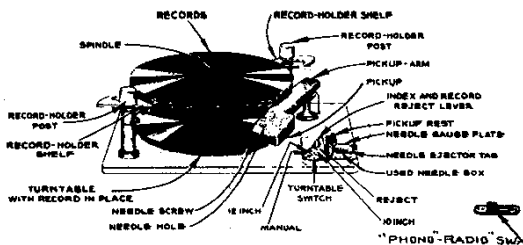

Figure 6
The two record holder posts (See Figure 6) are covered with paper held in place by rubber bands as is also the pickup. Remove these paper coverings.
**TURNTABLE SWITCH:** The Turntable Switch is a toggle type located in the front of the index plate on the motorboard (See Figure 6). It is used to start and stop the motor.
**INDEX LEVER:** The Index Lever moves in a small arc in the slot in the index plate. (See Figure 6). The plate is labeled for four positions of the lever - "Manual", "12", "10" and "Reject". If a single record is to be played the automatic record-changing feature will not be used and the Index Lever should be set to the "Manual" position.
Lift the Record Holder shelves, Figure 6, with the fingers underneath and revolve to clear the record circle, also push back the lever sticking up adjacent to the rear record holder post. You now have clear access to the turntable. Place the first record upon the turntable with the spindle protruding through the center of the record.
1. Move Index Lever to "Manual" position. See Figure 6.
3. Lift the record holder shelves and swing outwards. See Figure 6.
7. Turn on turntable switch. See Figure 6. The turntable will start revolving. Wait till it has reached its normal speed.
The phonograph will not shut off until the turntable switch (Figure 6) or the Receiver switch is turned off.